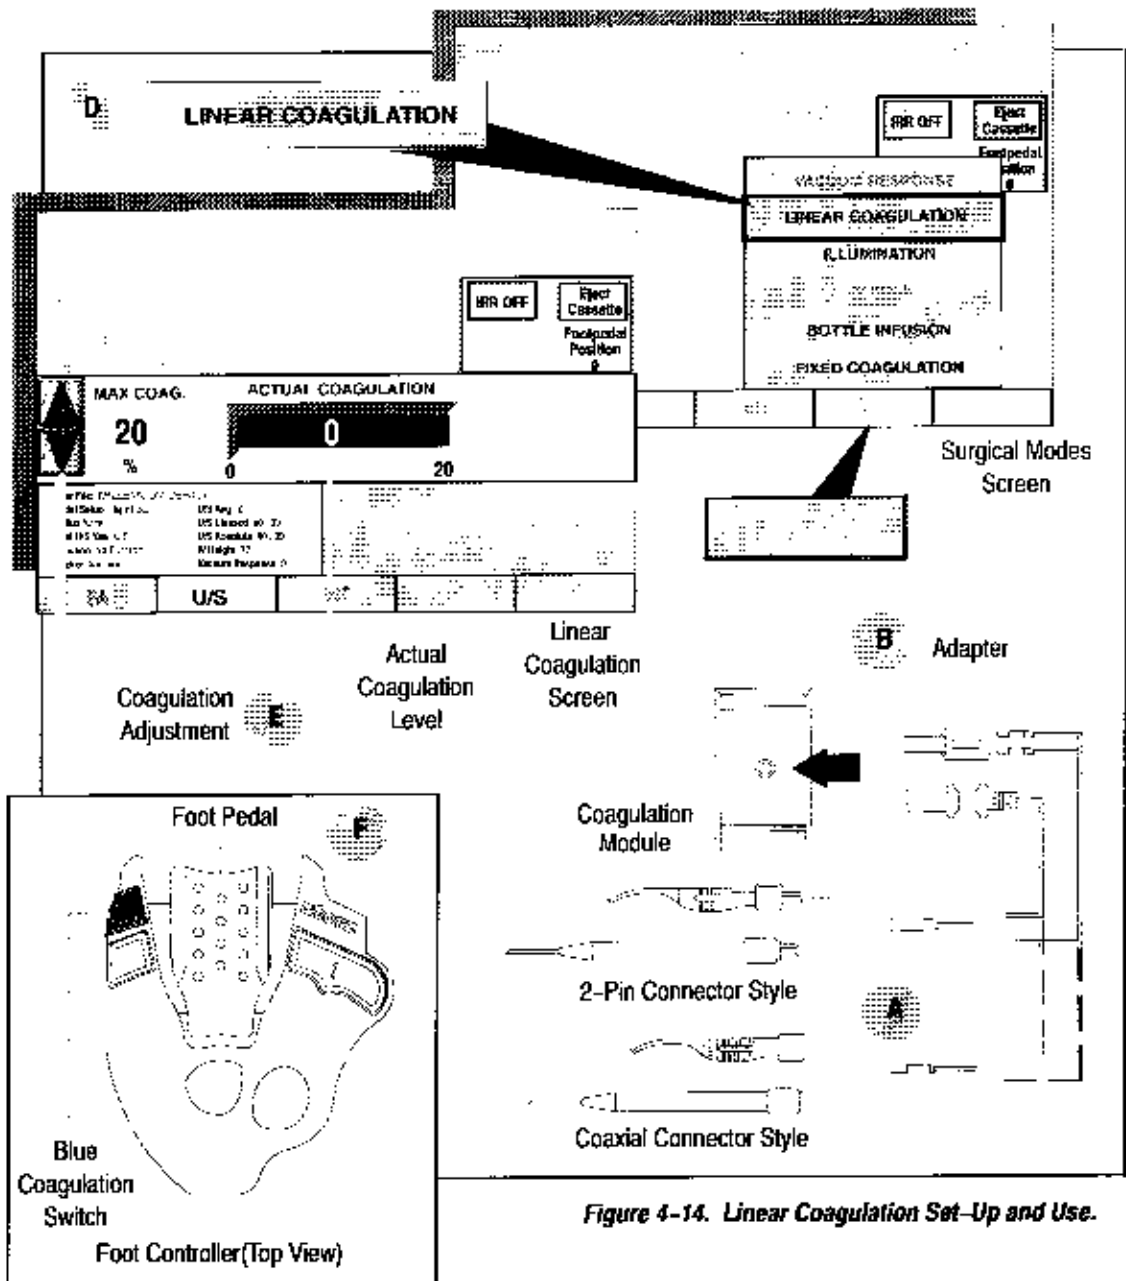

Figure 4-14. Linear Coagulation Set-Up and Use.
- A. Connect the desired bipolar forceps or pencil (see figure 4-14) to its cable.